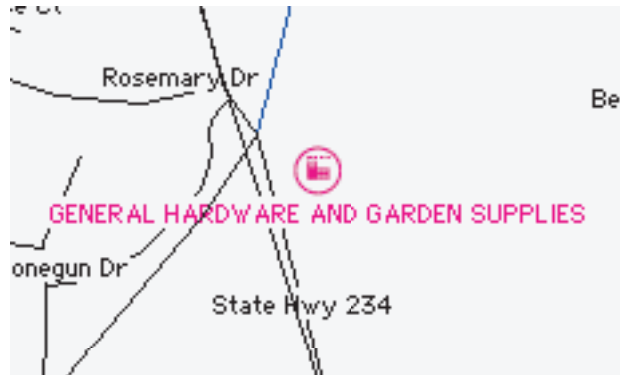

FIGURE 4-3. A facility symbol on a MARPLOT map.
2. From the Sharing menu, select MARPLOT, then Show on Map. MARPLOT will come forward, and will display the map, centered on the symbol (a facility symbol on a map is shown in Figure 4-3).